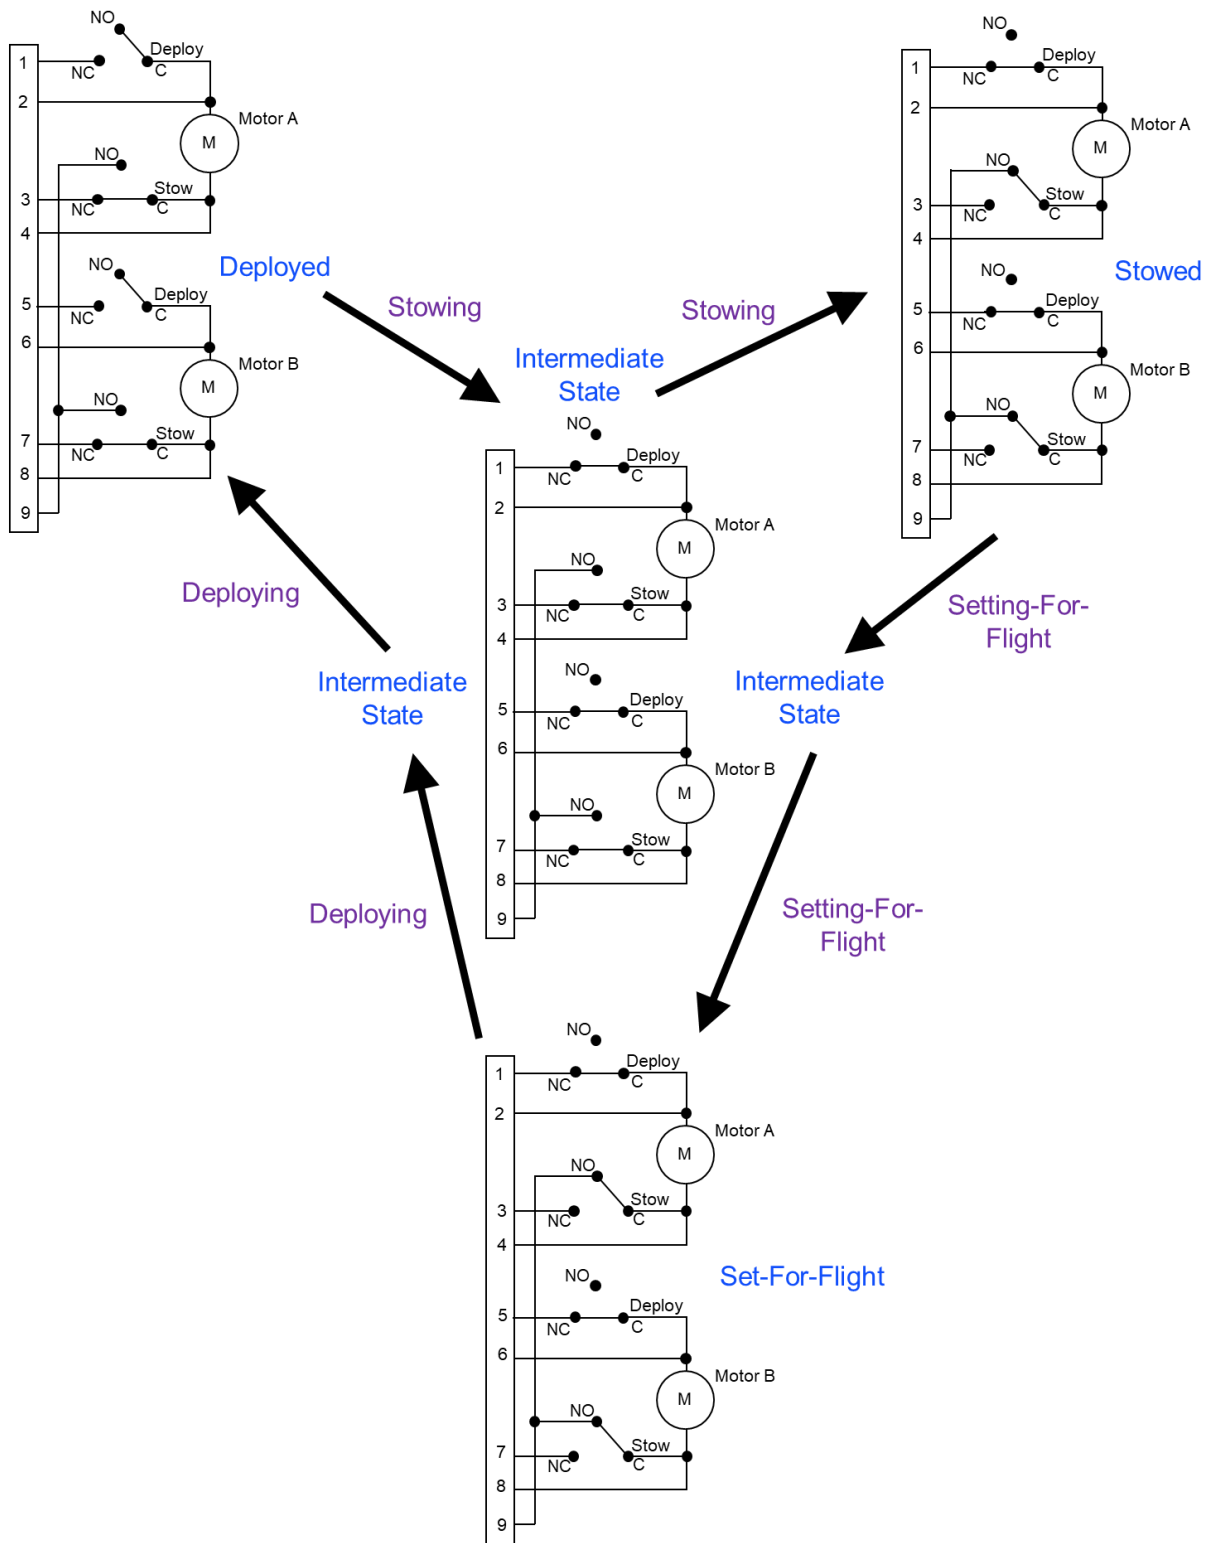

Figure 14-1: Lightband switch states
11.4.12	Using a DE-9 breakout harness with visibly clean pins, measure resistance directly at the Lightband's socket connector and complete Table 11-2. Contact PSC if a discrepancy is found. PSC recommends using a DMM. It will not cause damage to or operate the Lightband. If using a milliohm meter (four wire Kelvin probe system) ensure the test current is <0.01 A to prevent rotating the motors. See Figure 14-1 for the Deployed Motor Bracket Assembly switch state.
Figure 14-1 shows the switch states during and after each Lightband operation. Note that Stowed and Set-For-Flight have the same final switch states. During operation, the switches temporarily change to the Intermediate State shown below. This occurs when the Sliding Tube is not contacting either the Stow or Deploy limit switches.
- During the Stow and Deploy operations, the Lightband’s switches will change state to a temporary intermediate position as shown in Figure 14-1.